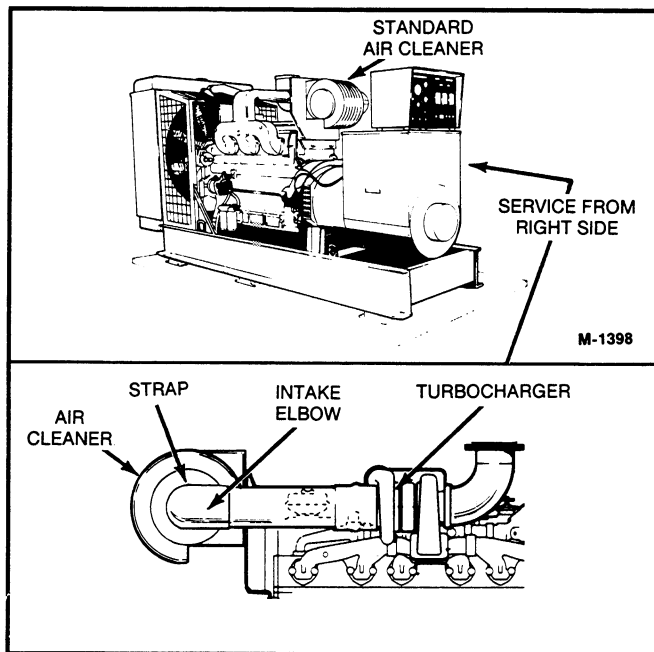

FIGURE 4-17. STANDARD AIR CLEANER
**To Replace the Standard Air Cleaner:** See Figure 4-17